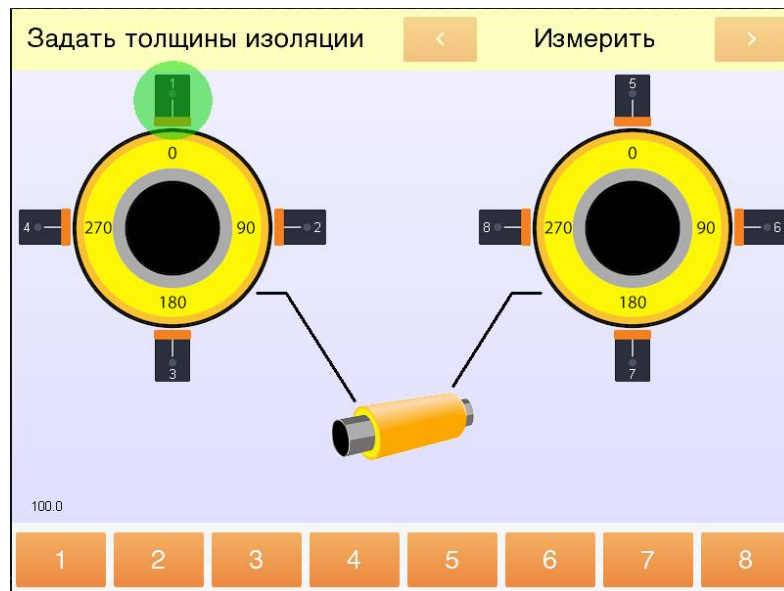

Figure 26. Set insulation thickness in 8 points.
If the insulation thickness varies, select the "Variable" option for the "Insulation thickness" parameter. In this case, an additional menu item ("Set insulation thickness") will appear. Figure 26 shows the window, which appears when you open the "Set insulation thickness" menu item.
- Attach the sensor to the pipe near point 1 (see Figure 26)